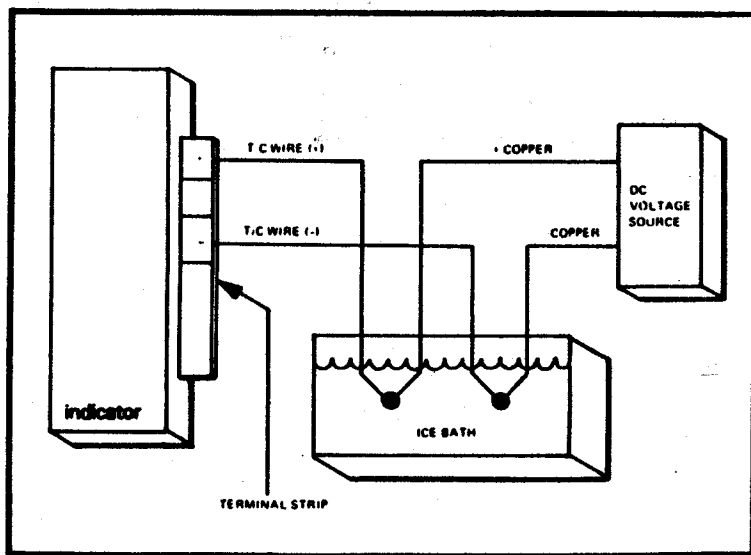

FIGURE 4-1. CALIBRATION SET-UP
- a. Prepare test wires for ice bath as shown in Figure 4-1.